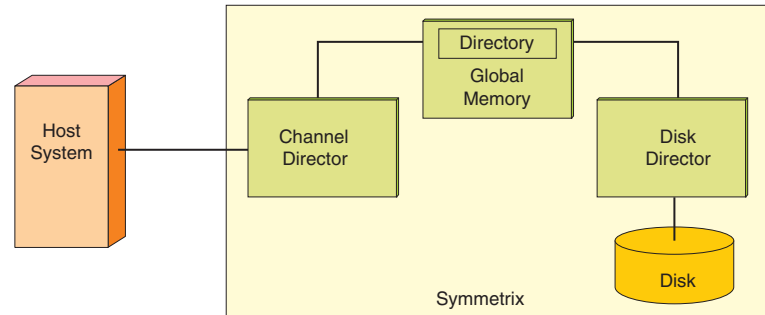

Figure 20 Symmetrix global memory management and data flow
The Symmetrix DMX-3 uses the same memory principle as host systems, but with enhanced caching techniques in global memory. Figure 20 on page 101 illustrates global memory use in Symmetrix systems.
- ◆ The channel director handles I/O requests from the host. It accesses the directory in global memory (Figure 20 on page 101) to determine if the request can be satisfied within global memory. The directory contains information on each memory page and blocks within each page.